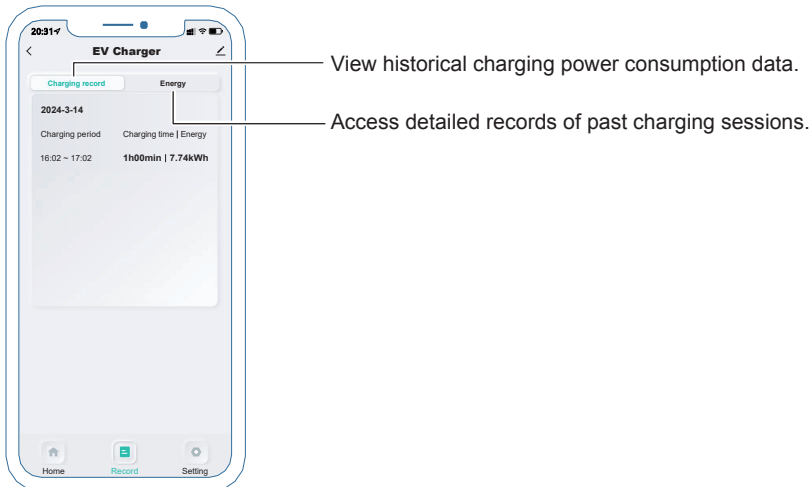

Fig.3
- Tap the “Record” icon to enter the charging record interface. For detailed operations, please refer to Fig. 3.